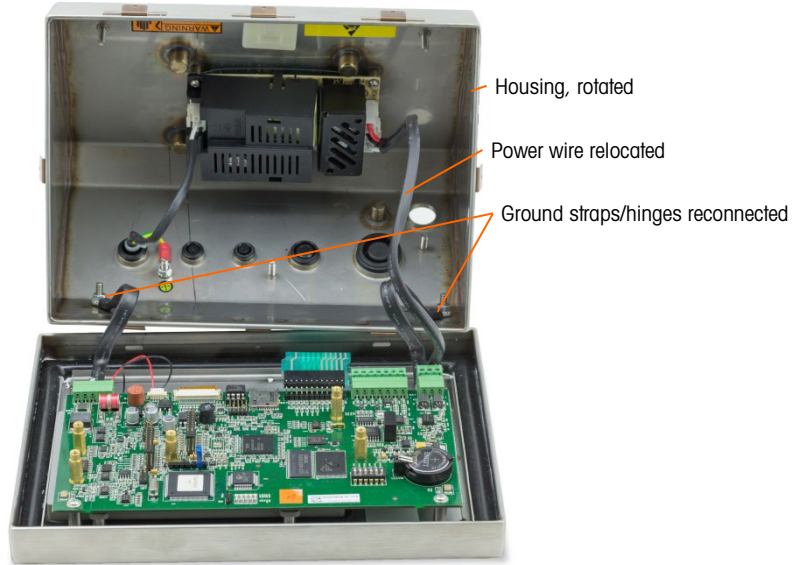

Figure A-11: Housing Reversed
5. Carefully rotate the housing 180 degrees and use the nuts removed in step 4 to reattach the two grounding straps to the studs near the grip bushings (Figure A-11). Tighten the two nuts.